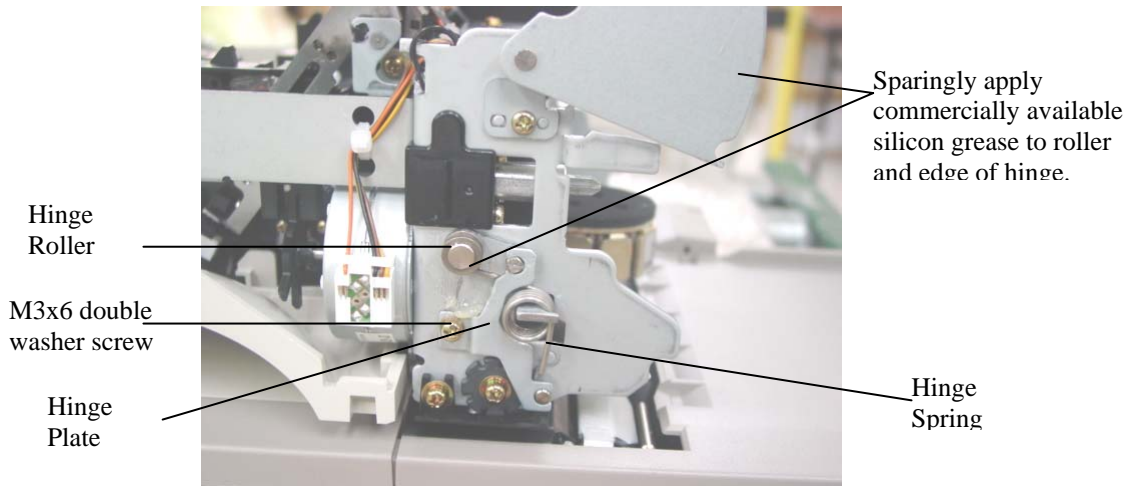

Figure 16 – Assembly of Hinge Plate, spring and roller
5. Assemble the Hinge Roller (part 5) followed by the Hinge Spring (part 3) and tighten the Hinge Plate with M3x6 double washer screw (part 8B). (Figure 16)
6. Apply lubricant to all moving contact areas. (Figure 16). Close the check scanner mechanism door.